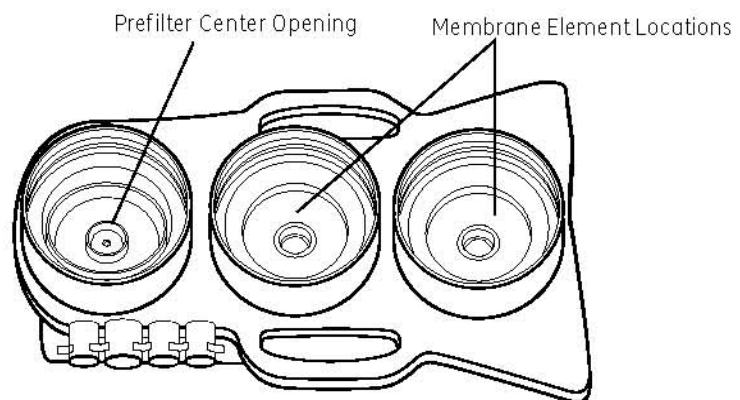

Figure 8
- D. Securely insert O-ring end of elements into manifold. See Figure 8.
- B. Pour a tablespoon (15 milliliters) of chlorine bleach into the center opening of the prefilter sump connection. See Figure 8.